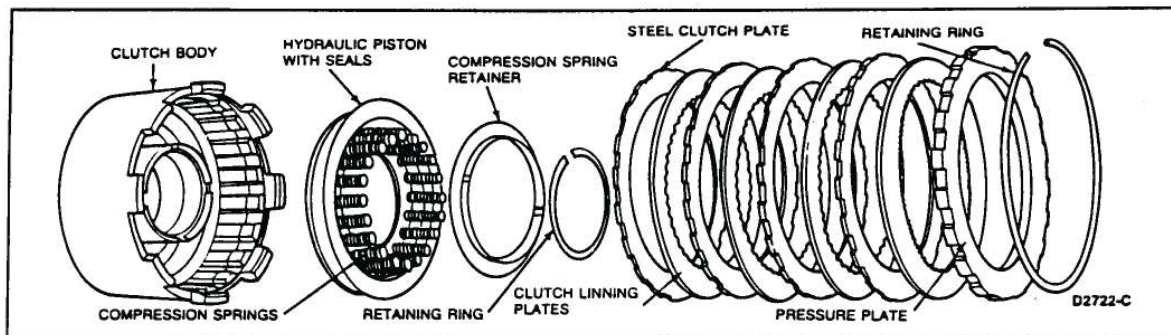

FIG. 28 Reverse and High Clutch Disassembled
1. Inspect the steel clutch plates and clutch lining plates (Fig. 28) for wear, damage or effects of overheating. Replace the entire set if necessary. If new plates are used, immerse them in transmission fluid for 30 minutes before assembly.
6. Install the clutch plates and pressure plate in the correct order (Fig. 28) and secure with the retaining ring.